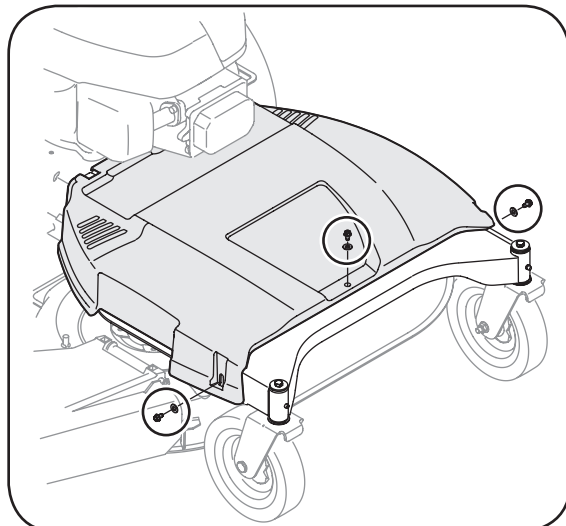

Figure 5-6: Remove screws and washers to remove belt cover.
2. Remove the three screws and washers holding the cover to the frame, Figure 5-6.